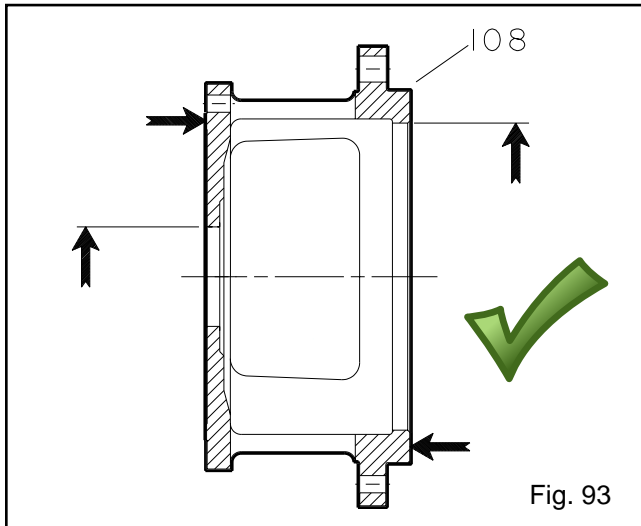

Fig. 93
1. Check frame adapter (108) for cracks or excessive corrosion damage. Replace if any of these conditions exist (Fig. 93).